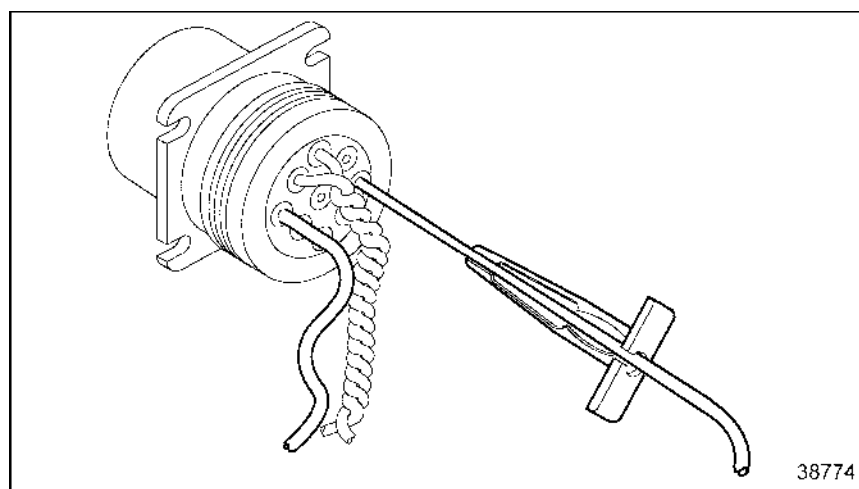

Figure 3-49 Removal Tool Position
1. With the rear insert toward you, snap the appropriate size remover tool over the cable of contact to be removed. See Figure 3-49.